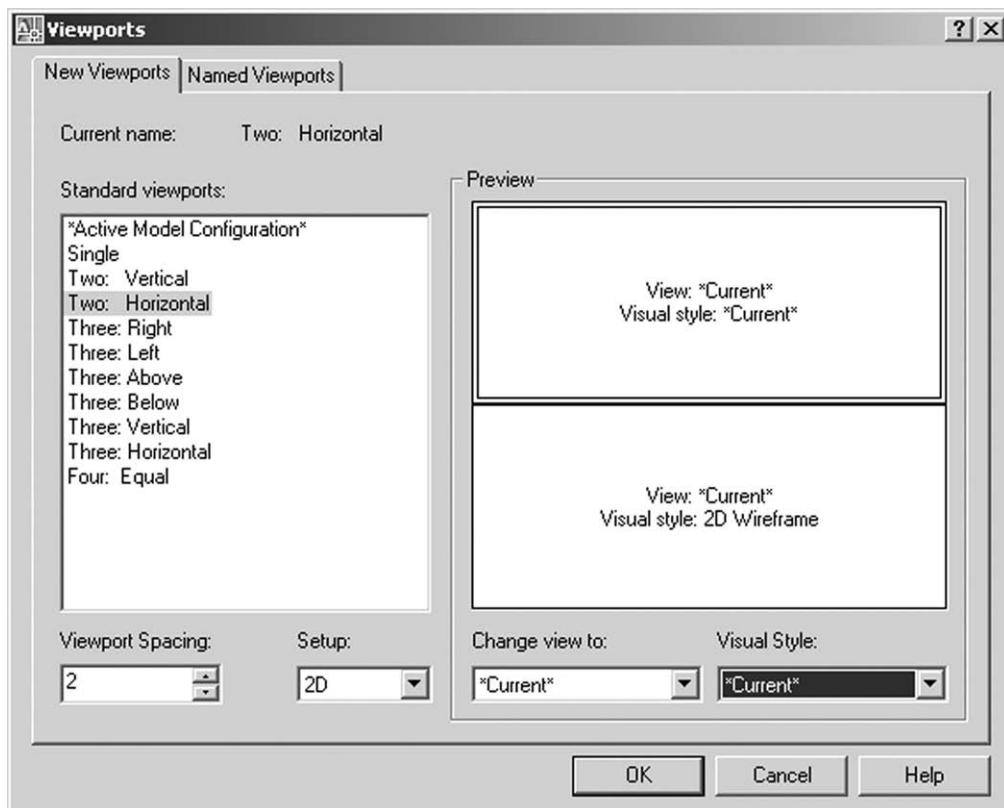

Figure 33.3 The Viewports (New Viewports tab) dialogue box.
- f) Visual style: ‘Current’ active (scroll if required) – Figure 33.3